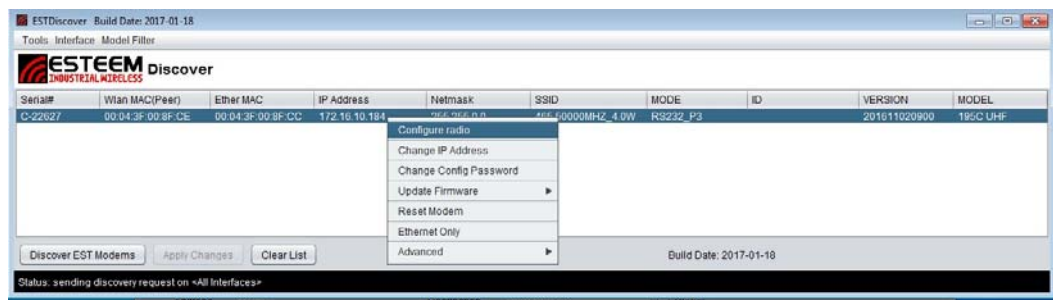

Figure 3: Opening Radio Configuration Software
- If changes were made to the IP address, you will need to press the *Discover EST Modems* button again to show the changes. Right-mouse click on the 195M/H/C (Figure 3) and select *Configure Radio* button to begin programming.